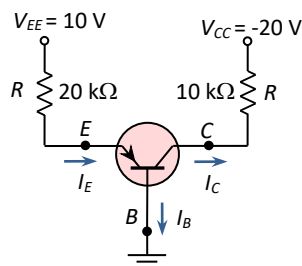

Fig. 4.40 : Circuit for problem no 4
4. For the common base circuit shown in Fig. 4.40 calculate: (i) I_B , I_C , and I_E (ii) V_{CE} , V_{CB} , V_E , and V_B . Assume $V_{BE} = 0.7 \text{ V}$, $I_{CBO} = 5 \mu\text{A}$, and $\beta = 75$. [Answer:]